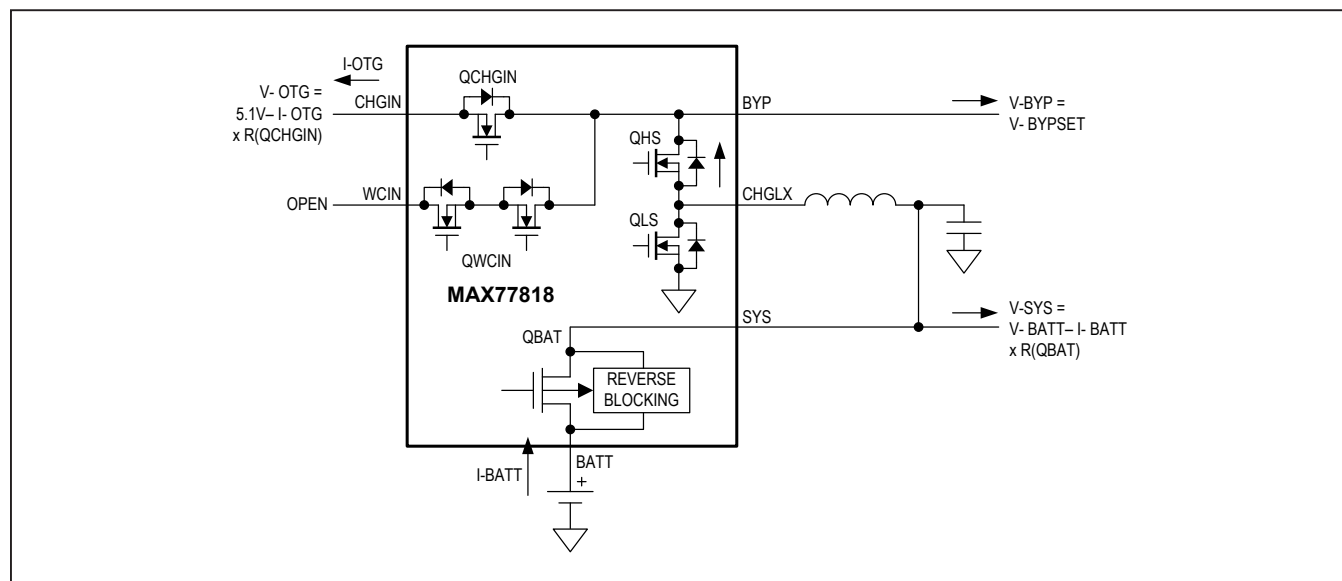

Figure 12. Battery Boost (OTG)
**Battery Boost (OTG), MODE = 0x0A:** Wireless input is turned off (QWCIN = off) and OTG is active (QCHGIN = on). Battery is connected to support SYS and OTG loads (QBAT = on), and charger is operating in boost mode (boost = on). See Figure 12.